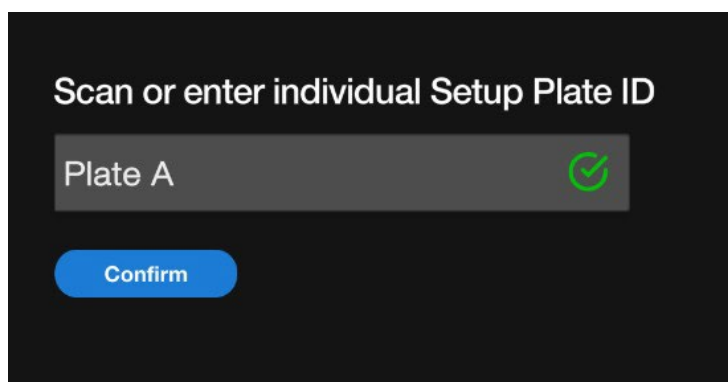

Figure 7.6 Confirmation of plate setup
- Click "Confirm" again to progress with setting up the sample plate (Figure 7.6).